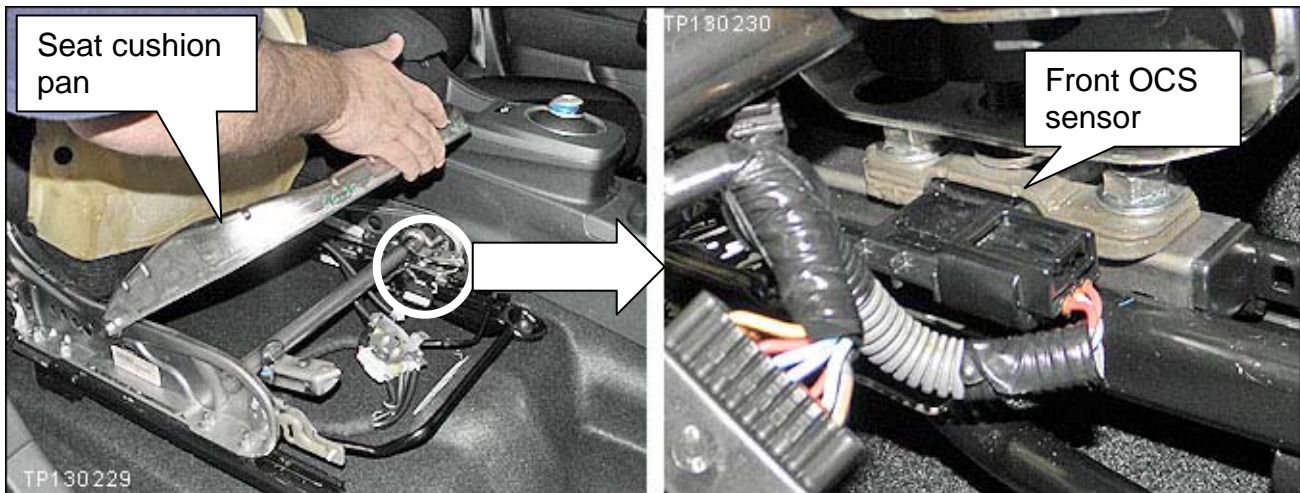

Figure 21
28. Lift the seat cushion pan and connect the front OCS sensor electrical connector (see Figure 21).